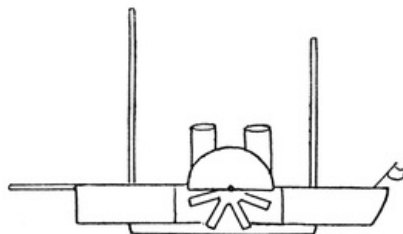

FIG. 155
**A Paddle-boat.** Two pieces of cork pinned on each side of the steamer and cut as in Fig. 155, or even left round, make very realistic-looking paddle wheels. Other models, such as a dreadnought, a fishing smack, etc., are easily made.